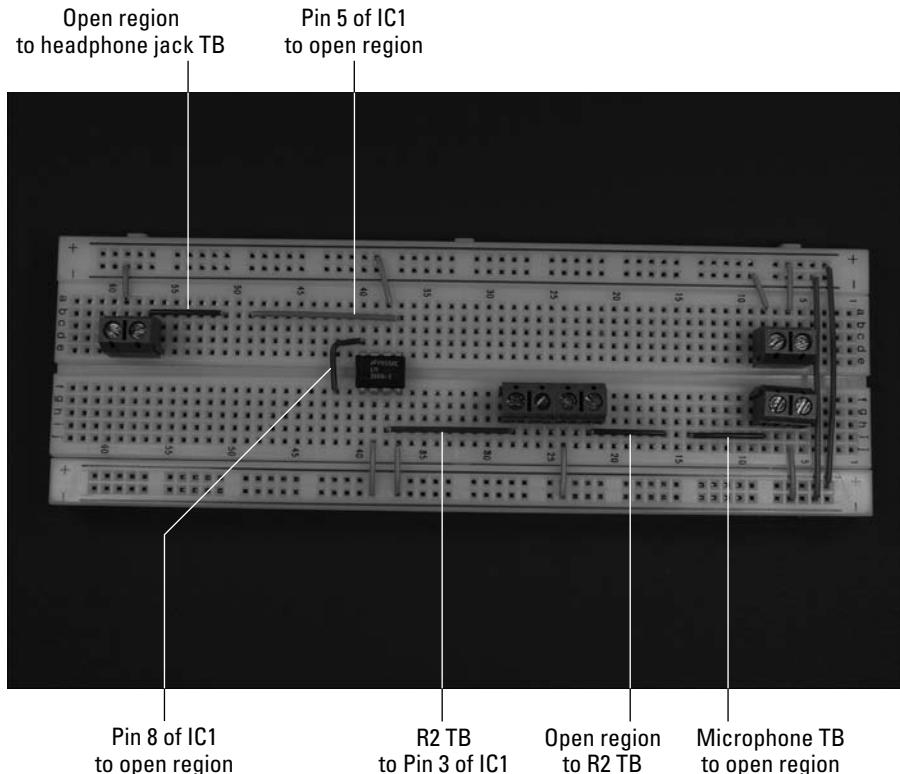

Figure 6-8:
4. Insert wires to connect the ICs, terminal block for the microphone cartridge, terminal blocks for the potentiometer (R2), terminal block for the headphone jack, and discrete components, as shown in Figure 6-8.